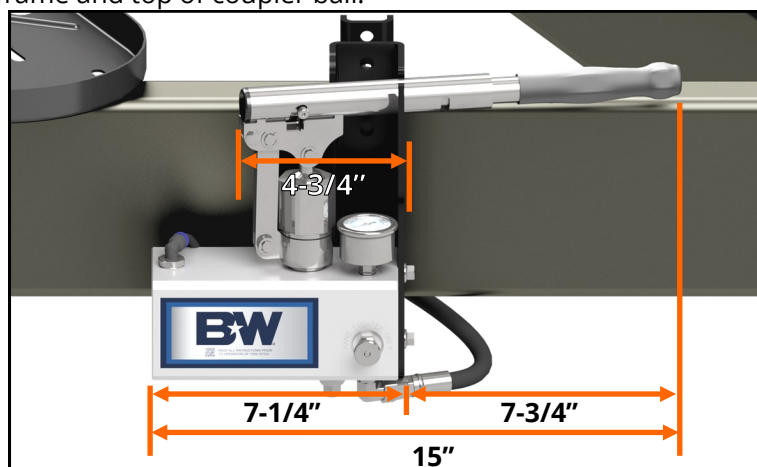

FIGURE A3: View of driver side frame rail.
- A clear span of frame rail is needed on the driver side of the trailer to mount the hydraulic pump, **see Figure A3.**
3. **Position the pump mount bracket.** Using **Figure A3** on **page 3**, locate a clear span of the driver side frame to secure the hydraulic pump. If the trailer had a propane tank cover, the installation area should be roughly 4" behind the mark made on the frame, **as shown in Figure C5**. Relocate any obstacles or cables that may be in the area needed for pump installation. When the best location for the hydraulic pump unit has been determined, adjust the pump mount bracket so it is level with the frame. Tighten the two 3/8" nuts holding the pump mount inside clamp by alternating between each nut so that when tight, the inside clamp and pump mount bracket are flat against the frame rails, **see Figures C6 and C7**. Torque the 3/8" nuts to 40 ft.-lbs.